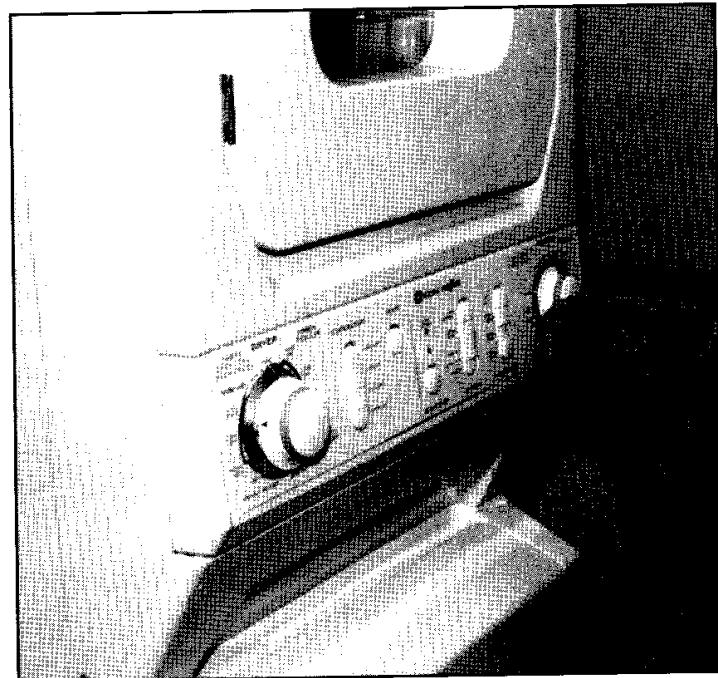

Figure 53
23. Remove washer and dryer timer knobs from miscellaneous parts package and insert them on the respective shafts. **NOTE:** Timer shafts are different between the washer and dryer. (See figure 53.)